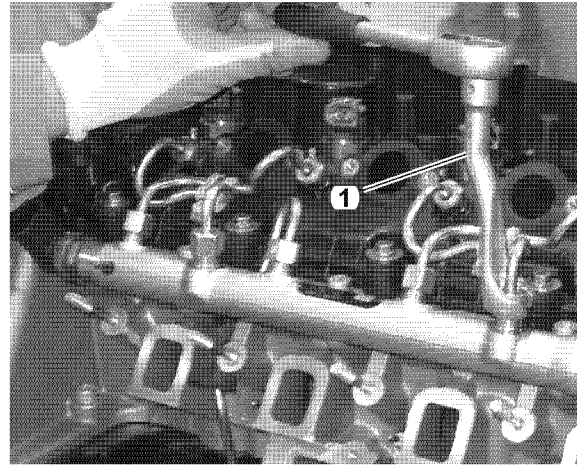

Figure 6-19
5. Loosen union nuts on high-pressure fuel line(s) using special tool OEM No. 13 5 020 (or similar) (1, **Figure 6-19**).